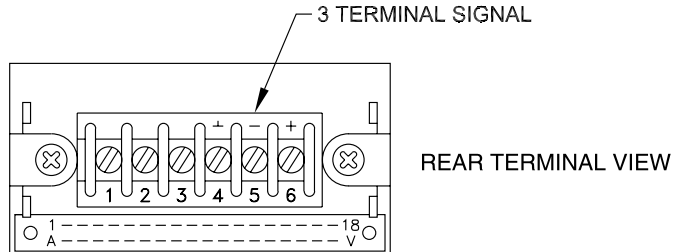

FIGURE 5. SIGNAL INPUT CONNECTIONS
18.0 SIGNAL INPUT CONNECTIONS (TB1) (SEE FIGURE 5)